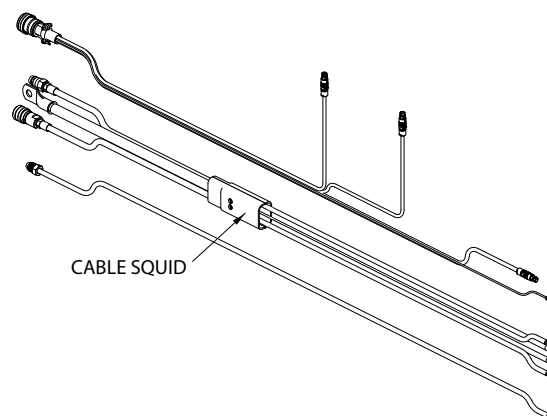

FIGURE 51 - Cable Squid
- Examine all cable connections at the squid connector, See **FIGURE 51 - Cable Squid** to verify that there are no water or gas leaks, and that all cables are seated correctly and that there is no visible wear and tear to the squid connector or associated cables.